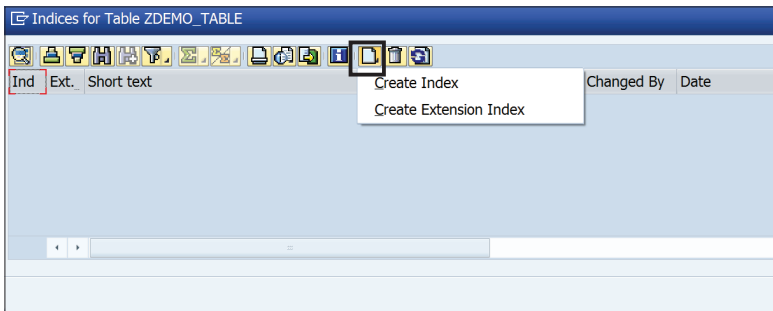

Figure 10.14 Create Secondary Index
2. The system will open a window displaying all the secondary indexes created for the database table. If no secondary indexes are defined, this window will show an empty list. Click the `CREATE` button and choose `CREATE INDEX` from the drop-down menu, as shown in Figure 10.14.